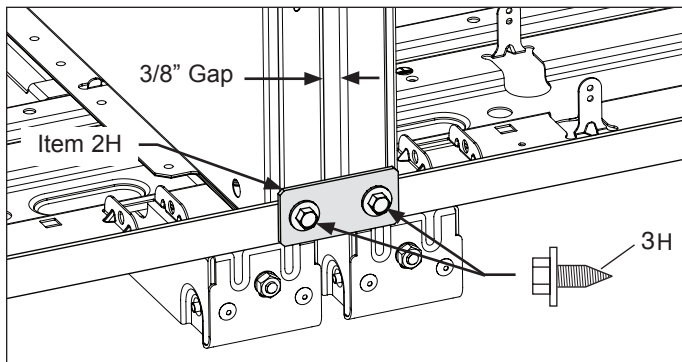

Figure 5
5. a. Tie units together by securing the mounting bracket at the back of the units with a 3/8" socket. (See Figure 5).